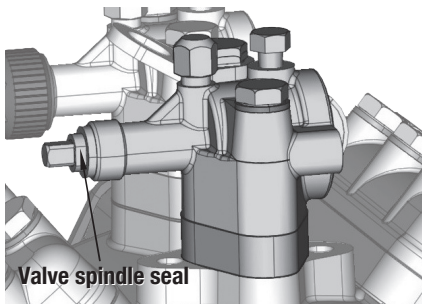

Fig. 11
- If the force engagement point shifts forwards (see Fig.11, small point), the force F_{max} reduces as per the following formula: